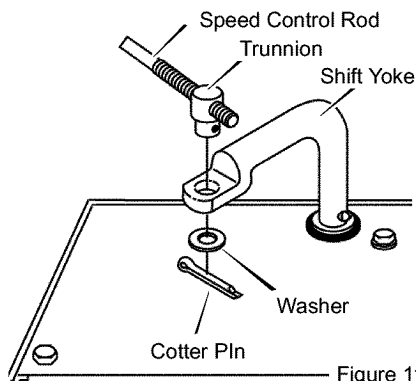

Figure 11
4. Attach the **trunnion**, located on the bottom end of the **speed control rod**, to the **shift yoke assembly**. See Figure 11. The **fasteners** are attached to the **trunnion** at the factory.